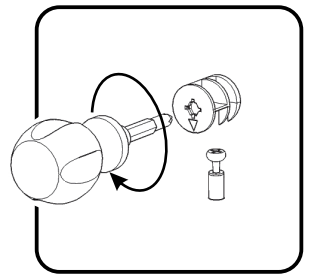

Figure 2
Attach Back Stretcher (G) to Side Panel (B) with Cam Lock. (See Figure 2)